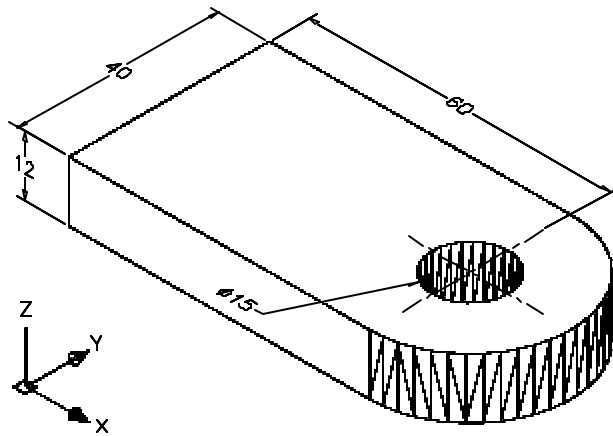

Figure 24-64 Base for the model
2. Create the base of the model and then change the viewpoint to **1,-1,1**, see Figure 24-64.